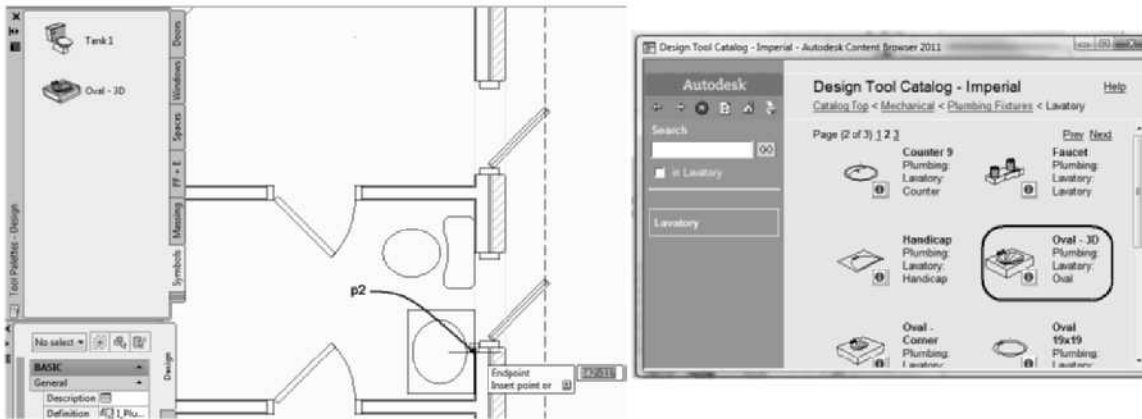

FIGURE 10.39 Selecting Endpoint for placement of lavatory
16. Move the cursor over the workspace, pause over **p2** as shown in Figure 10.39 until the Endpoint Osnap marker is displayed, and then click to select the location of the lavatory. Press ESC to end insertion.